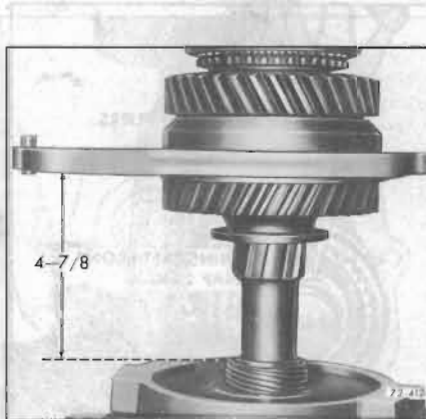

Figure 72-412—Installing Speedometer Drive Gear
11. Press speedometer drive gear onto mainshaft using suitable press plate. Position speedometer gear to get a measurement of 4 7/8" from forward side of gear to flat surface of rear bearing retainer. See Figure 72-412.